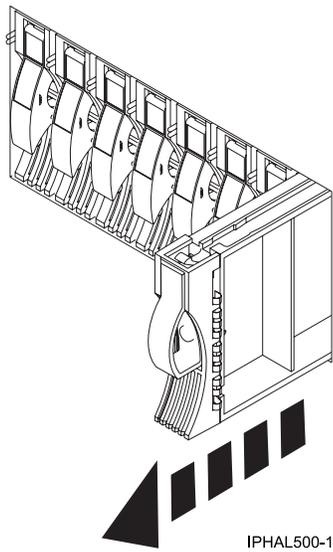

Figure 17. Removing a disk-drive filler from a model
- a. Pull the disk-drive filler from the slot you want to use, as shown in Figure 17 on page 20.